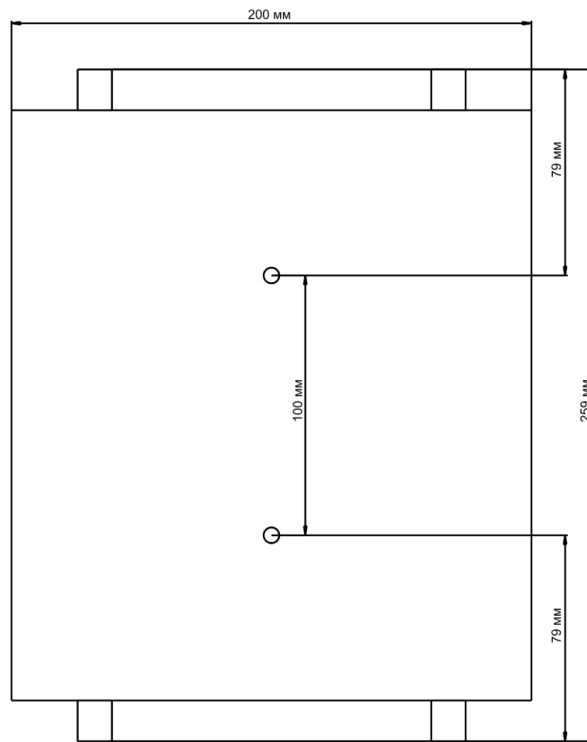

Figure 13 – Device dimensions corresponding mounting holes
3) Fix the device on the wall Dimensions of the device after installation corresponding mounting holes are shown in the figure 13.